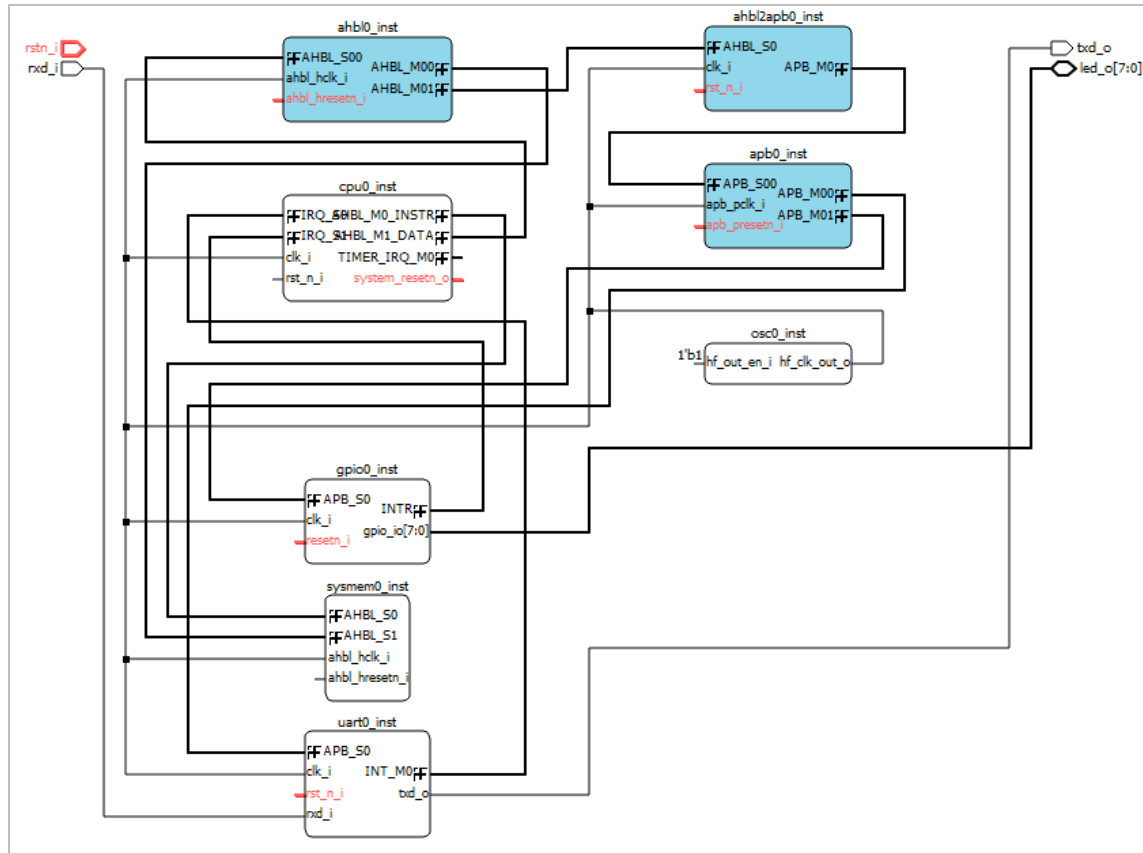

Figure 2.81. Select More than One Ports
3. You can connect multiple ports once. When more than one port is selected (Figure 2.81), click **connect**  from the right-click menu to implement it.